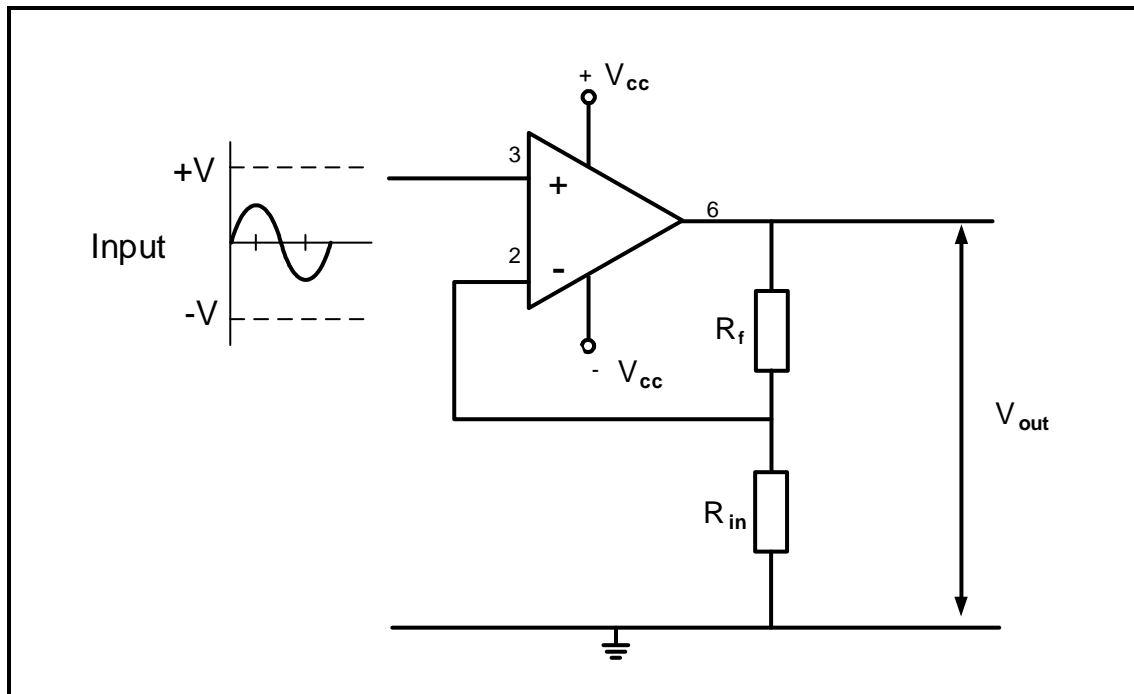

FIGURE 4.1: OPERATIONAL AMPLIFIER
- 4.1 FIGURE 4.1 below shows an operational amplifier. Answer the questions that follow.
- 4.1.1 Identify the type of operational amplifier in FIGURE 4.1. (1)